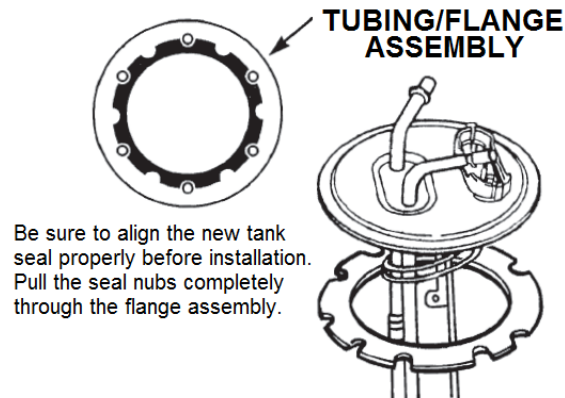

Figure 1
13. Remove the old tank seal from the pump bracket flange. Carefully slide the seal down over the pump and level sender assembly. Be sure to orient the seal properly before sticking it to the flange. Once proper orientation has been determined, it is best to make a locating mark on the flange and on the seal. Then, the protective paper can be removed from the adhesive side of the seal and be properly affixed to the pump bracket flange (Fig. 1).